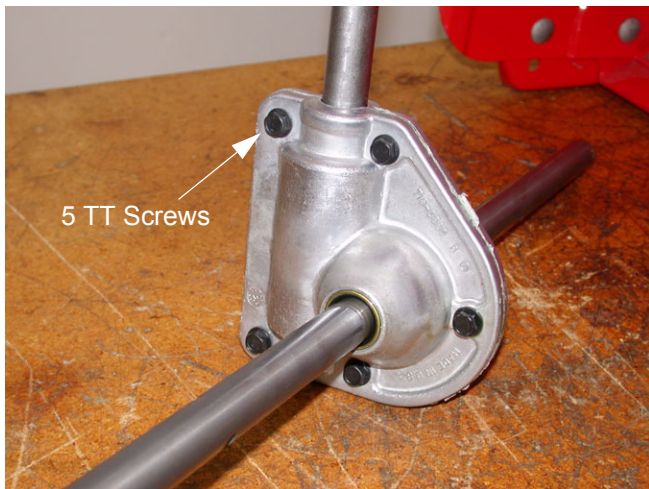

Figure 52
- 19.1. Using a 3/8" socket, remove the 5 TT screws securing the reducer halves together. See Figure 52.